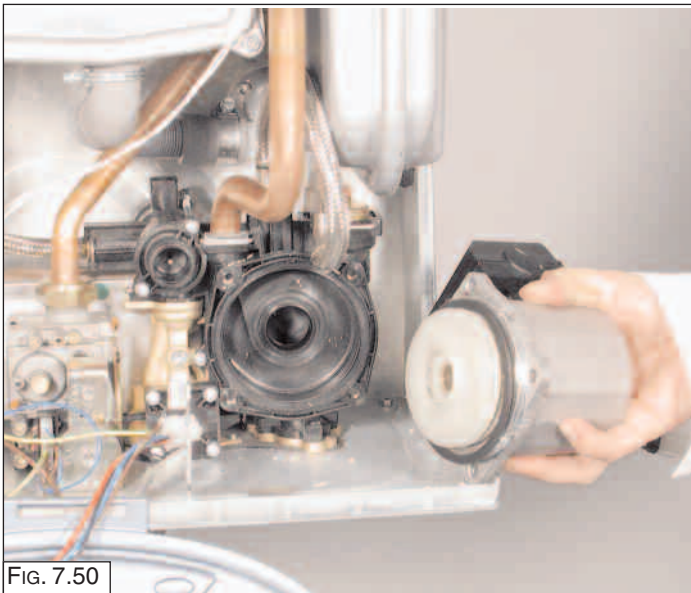

FIG. 7.50
3. Remove the pump (FIG. 7.50).